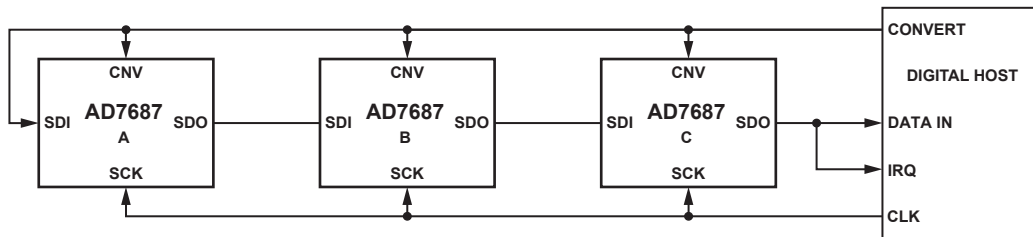
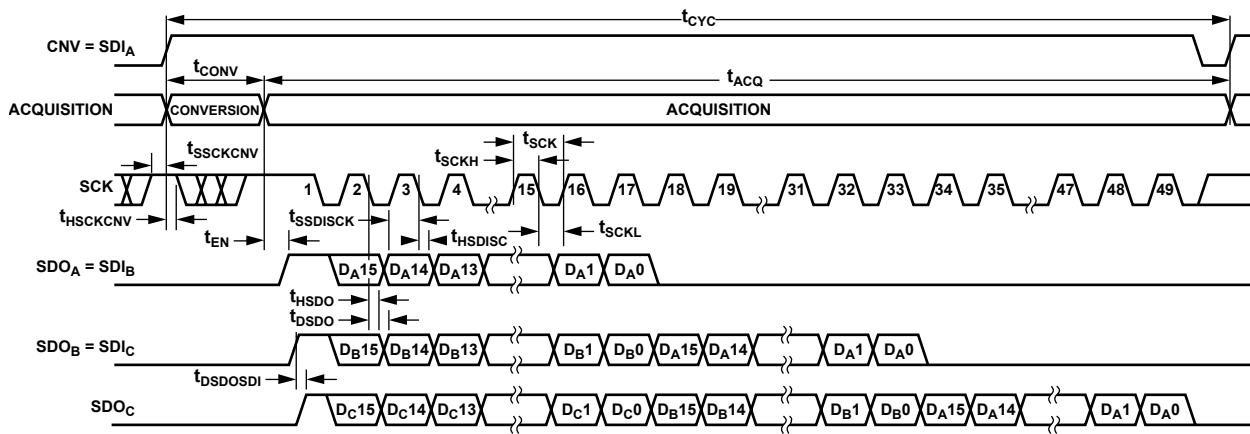

Figure 44. Chain Mode with BUSY Indicator Connection Diagram
Figure 45. Chain Mode with BUSY Indicator Serial Interface Timing
- In the chain mode, if SCK is high during the CNV rising edge (Figure 45).
A connection diagram example using three AD7687s is shown in Figure 44 and the corresponding timing is given in Figure 45.
Figure 44) SDO will be driven high. This transition on SDO can be used as a BUSY indicator to trigger the data readback controlled by the digital host. The AD7687 then enters the acquisition phase and powers down. The data bits stored in the internal shift register are then clocked out, MSB first, by subsequent SCK falling edges. For each ADC, SDI feeds the input of the internal shift register and is clocked by the SCK falling edge. Each ADC in the chain outputs its data MSB first, and $16 \times N + 1$ clocks are required to readback the N ADCs. Although the rising edge can be used to capture the data, a digital host also using the SCK falling edge will allow a faster reading rate and, consequently more AD7687s in the chain, provided the digital host has an acceptable hold time. For instance, with a 5 ns digital host set-up time and 3 V interface, up to five AD7687s running at a conversion rate of 250 kSPS can be daisy-chained to a single 3-wire port.